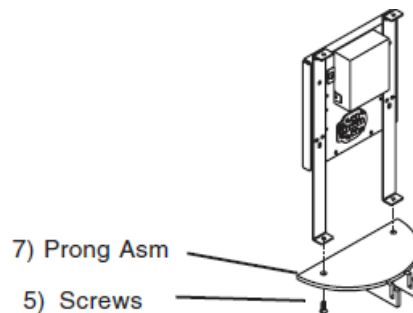

Fig 7
2. **DLSD7, DLSD8, DLSD9 & DLSD17-** Align holes in Prong Assembly (7) with holes in bottom of mountin brackets and secure with Screws (5) See Fig 7.